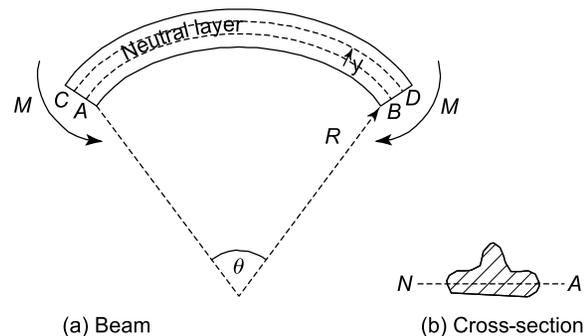

Figure 9.2
In pure or simple bending, the beam will bend into an arc of a circle as shown in Figure 9.2.
Now in Figure 9.2, it can be seen that due to these couples  $M$ , the upper layers of the beam will be in tension, because their lengths have been increased, and the lower layers of the beam will be in compression, because their lengths have been decreased. Somewhere in between these two layers lies a layer whose length has not changed, so that its stress due to bending is zero. This layer is called the **neutral layer** and its intersection with the beam's cross-section is called the **neutral axis (NA)**. Later on in this chapter it will